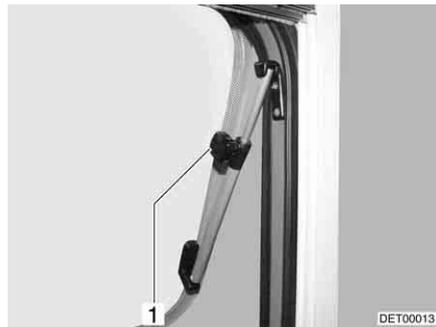

Fig. 58 Hinged window with rotary hinge
- Hinged window with rotary hinge: Open the hinged window until the required position has been reached and use knurled knob (Fig. 58,1) to secure in position.
- Hinged window with rotary hinge: Turn knurled knob (Fig. 58,1) until the latch is released.